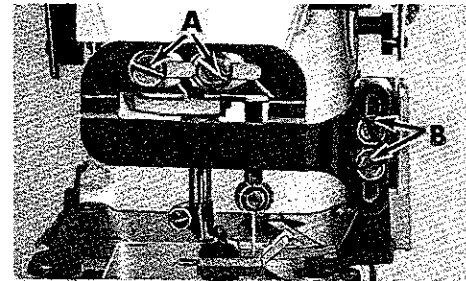

Fig. 15
OF NEEDLES on Styles 59300 C and E; on Styles 59300 F and G as close as possible without touching. The stripper blade should be set  $\frac{1}{8}$  inch (3.18 mm) ABOVE THE TOP OF THROAT PLATE on Styles 59300 C and E;  $\frac{5}{32}$  inch (3.97 mm) on Styles 59300 F and G. IN FRONT OF NEEDLES setting is accomplished by loosening screws (A, Fig. 15) position bracket as required and retighten screws. ABOVE THE TOP OF THROAT PLATE setting is accomplished by loosening locknuts securing screws (B, Fig. 15), then loosen screws (B) and position stripper blade holder as required. Retighten screws (B) and locknuts.